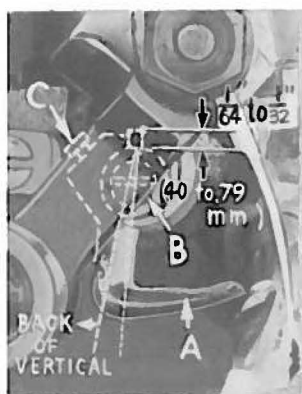

Fig. 7
Insert upper looper (A, Fig. 7) in its holder. Screw (B) holds upper looper in its holder and permits it to be pushed in or out, or turned around its shank. Insert upper looper holder into upper looper shaft (if not already in place). Screw (C) on the clamp holds the upper looper holder in the shaft. Locate upper looper in its holder so that the shank extends  $\frac{1}{64}$  to  $\frac{1}{32}$  inch (.40 to .79 mm) beyond holder (Fig. 7).